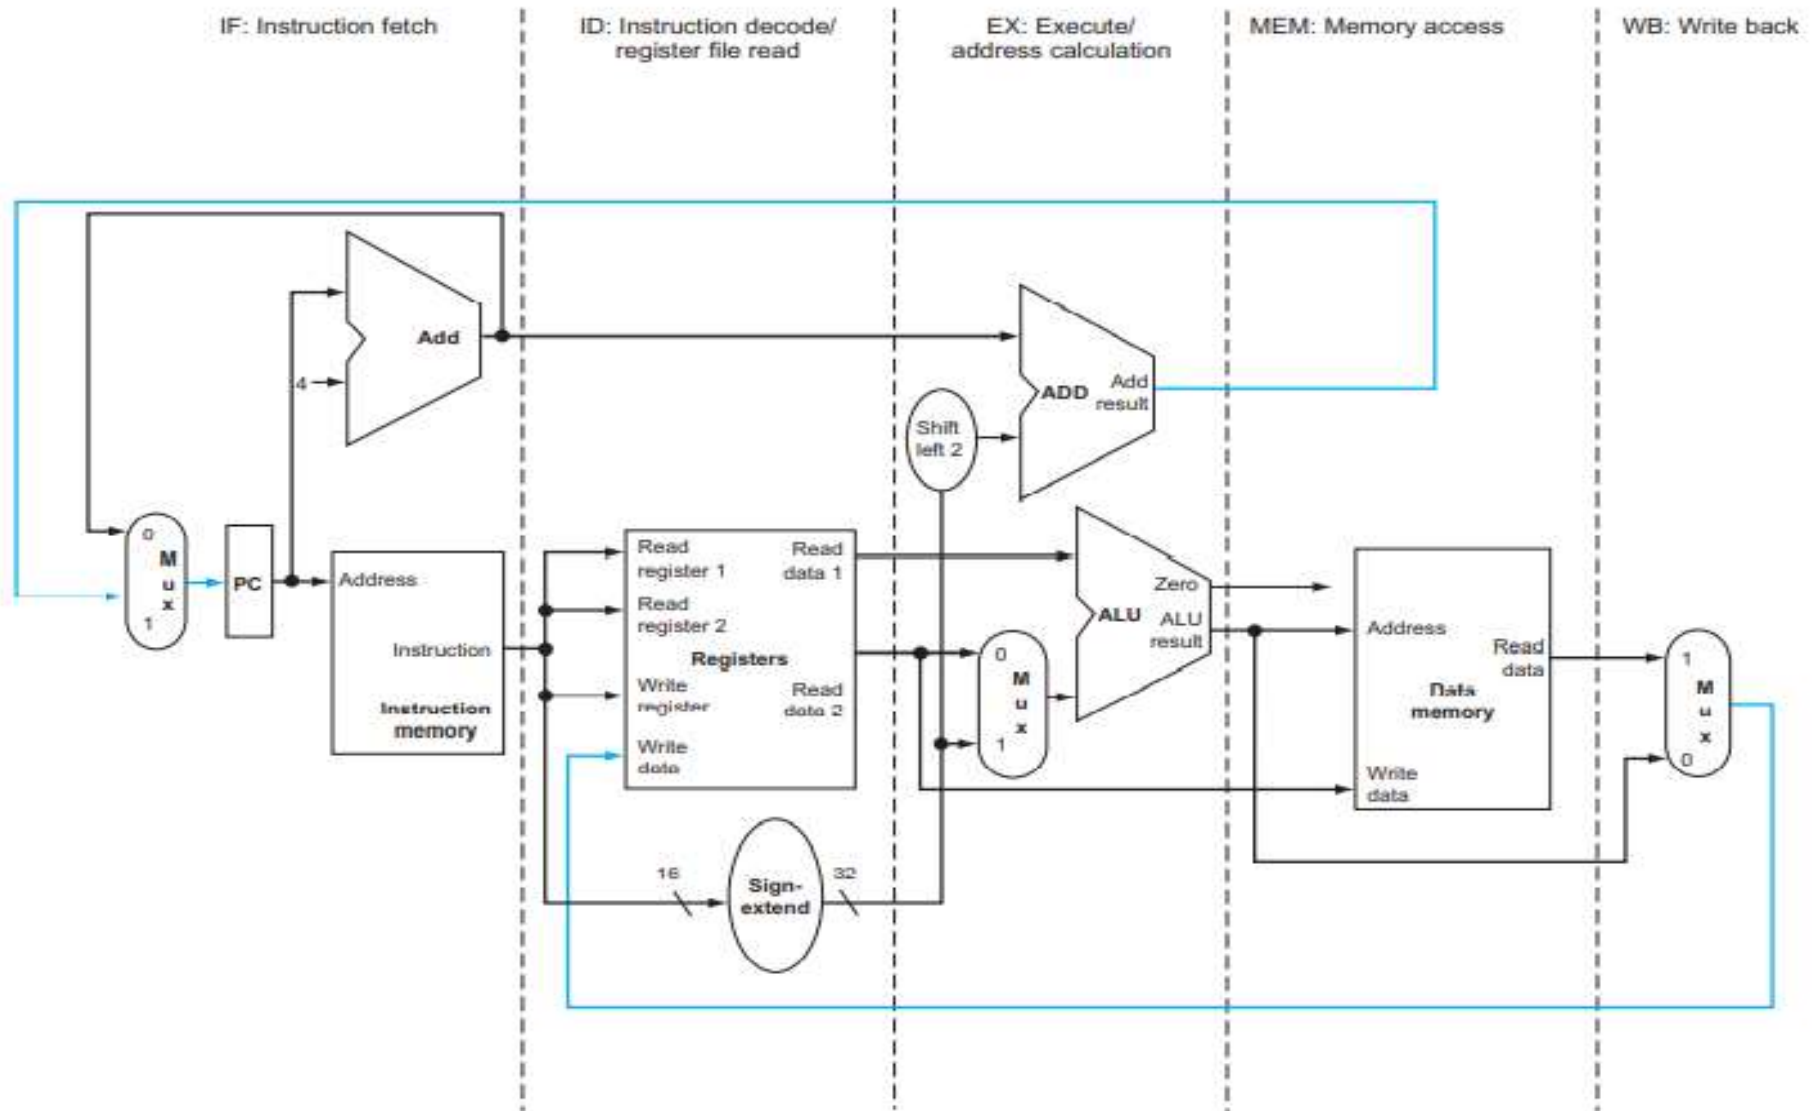

FIGURE .33 The single-cycle datapath
- In Figure 33, these five components correspond roughly to the way the datapath is drawn; **instructions and data move generally from left to right** through five stages as they complete execution.
- Similar arguments apply to every pipeline stage, so we must **place registers wherever there are dividing lines** between stages in Figure 33.